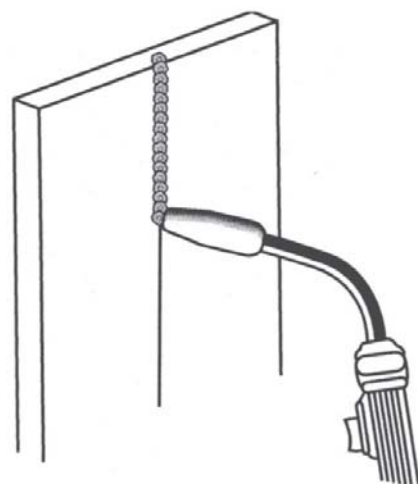

Figure 15. Vertical Position
3. The VERTICAL POSITION (Figure 15) is the next most difficult position. Pulling the gun from top to bottom may be easier for many people, but in some instances it can be difficult to prevent the puddle from running downward. Pushing the gun from bottom to top may provide better puddle control and allow slower rates of travel speed to achieve deeper penetration. When vertical welding, angle B (see HOLDING THE GUN - p.19) is usually always kept at zero, but angle A will generally range from 45 to 60 degrees to provide better puddle control.